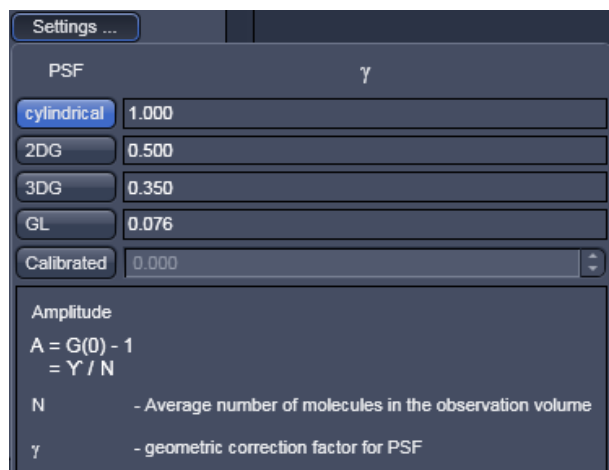

Fig. 278 Amplitude Settings panel
- You can set a value for the geometric factor γ , which describes the point-spread function (Fig. 278).
- By pressing the **cylindrical**, **2DG**, **3DG** and **GL** buttons you can select a cylindrical, 2 dimensional Gaussian, 3 dimensional Gaussian (3DG) and Gaussian-Lorentzian (GL) PSF, respectively. If you press the Calibrate button, you can type in a user defined number in selection box or use the arrows to set a value.